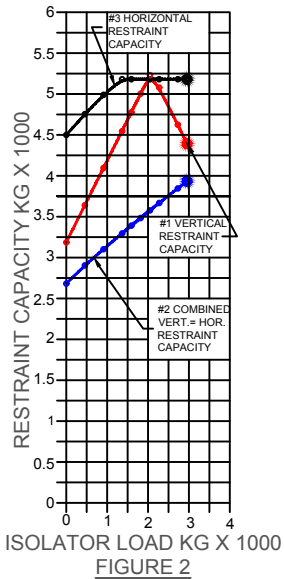
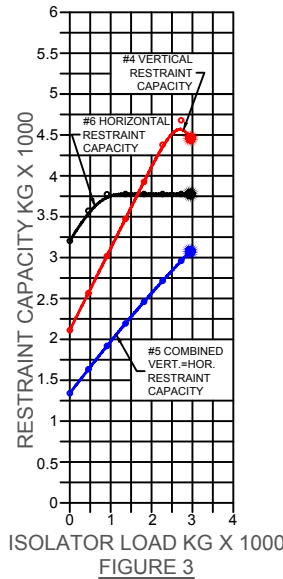

FIGURE 2
FIGURE 3
- 2) IF THROUGH-BOLTED (STEEL), REFER TO FIGURE 2. IF ANCHORED (CONCRETE), REFER TO FIGURE 3.
- 3) PLOT THE VERTICAL RESTRAINT CAPACITY FROM CURVE #1 (FIGURE 2) OR #4 (FIGURE 3) ON THE VERTICAL AXIS OF FIGURE 1.
- 4) PLOT THE HORIZONTAL RESTRAINT CAPACITY FROM CURVE #3 (FIGURE 2) OR #6 (FIGURE 3) ON THE HORIZONTAL AXIS OF FIGURE 1.
- 5) PLOT THE COMBINED RESTRAINT CAPACITY FROM CURVE #2 (FIGURE 2) OR #5 (FIGURE 3) AT THE POINT ON FIGURE 1 WHERE THE VERTICAL AND HORIZONTAL FORCES BOTH MATCH THIS VALUE.